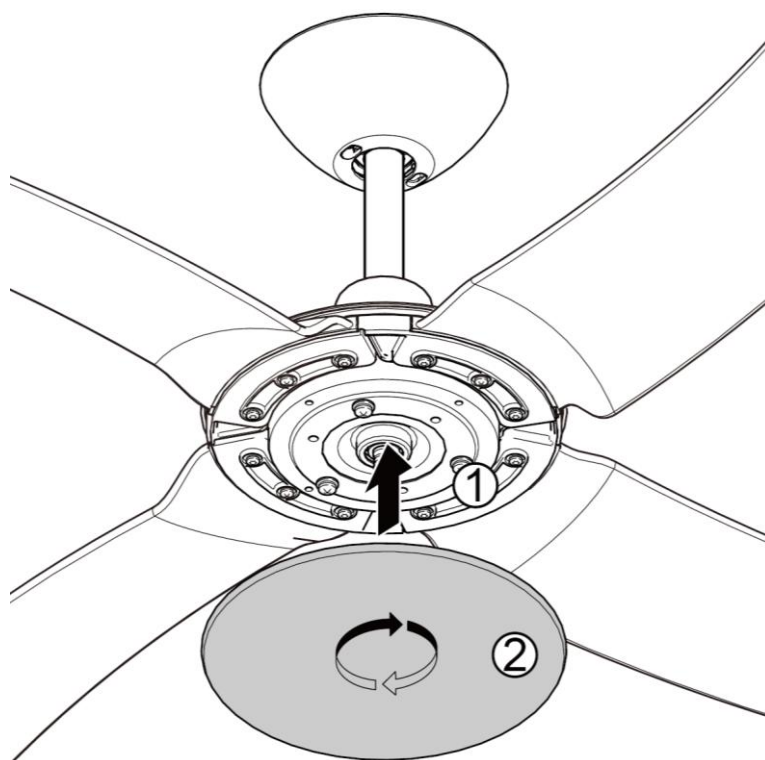

Fig. 5.4
4. Install the fan base plate back onto the motor assembly by twisting it clockwise. (Fig.5.4)